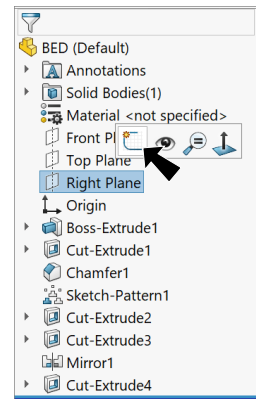

Fig. 49
Step 1. Click **Right Plane**  in the Feature Manager and click **Sketch** on the context toolbar, **Fig. 49**.